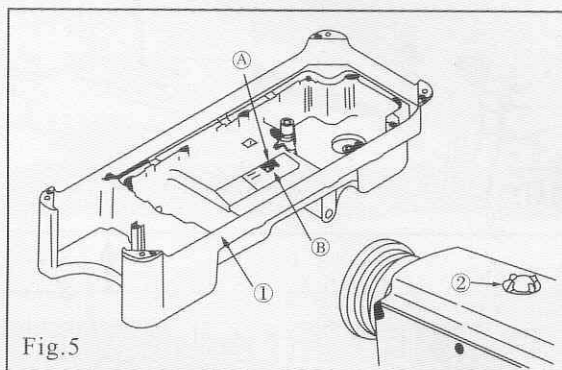
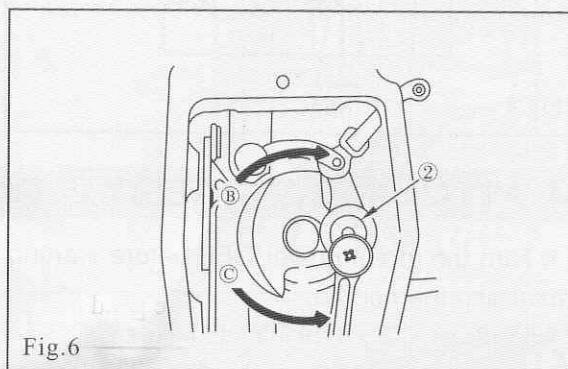

Fig.5
Fig.6
2. LUBRICATION (Fig.5, Fig.6)
1. Information on lubrication (Fig.5)
2. The amount of oil supplied to the face plate parts apply the plug of main shaft to control (Fig.6)